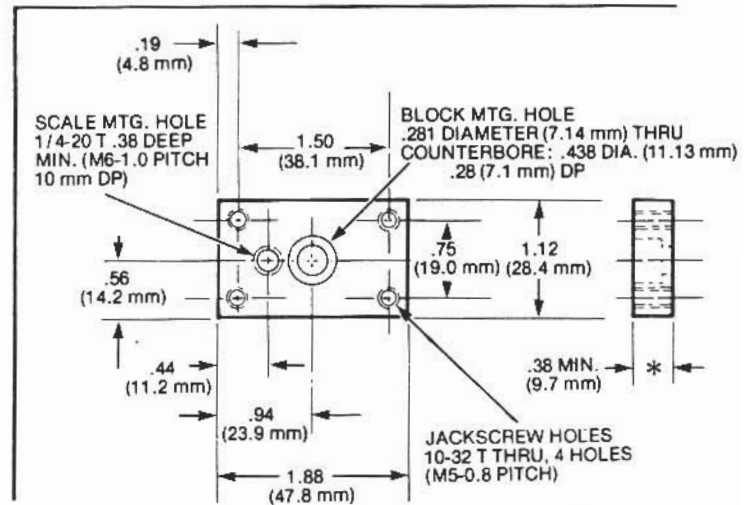

Figure 1-4. Suggested Method of Providing Flat and True Mounting Surface.
5. Fabricate parts necessary to obtain a flat mounting surface as referenced in Figure 1-4 and proper machining practices. Due to the end-mounting design of the scale case, single mounting blocks or standoffs, one at each end, should be used instead of a full length spar. This eliminates the need to indicate the full length of the top edge of the spar. The entire length of the **front surface** of the scale case, however, must always be indicated.